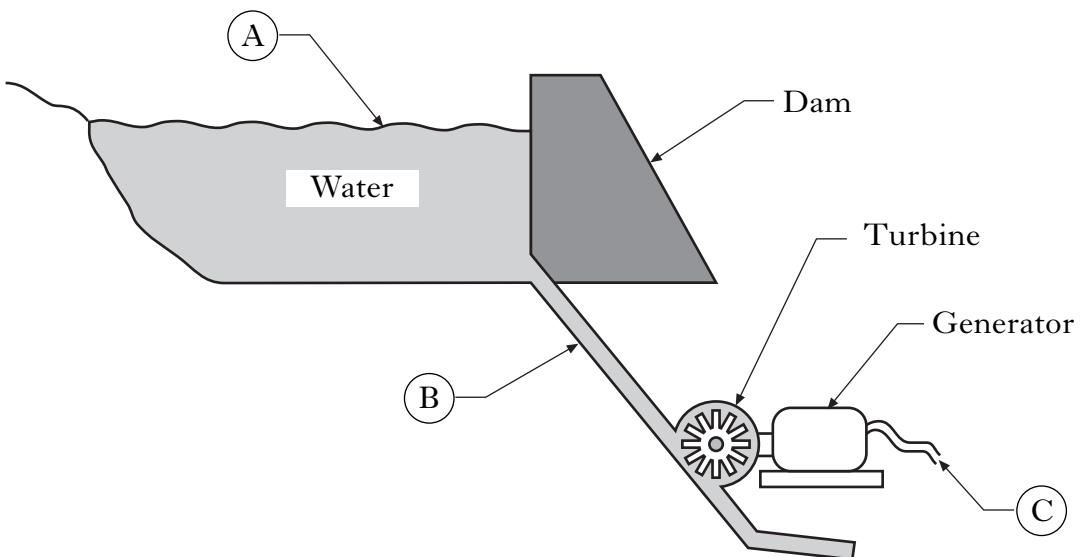

Figure Q11(a)
11. A simplified hydroelectric power station is shown in Figure Q11(a).
- (a) State the **main** form of energy at positions (A), (B) and (C) in Figure Q11(a).